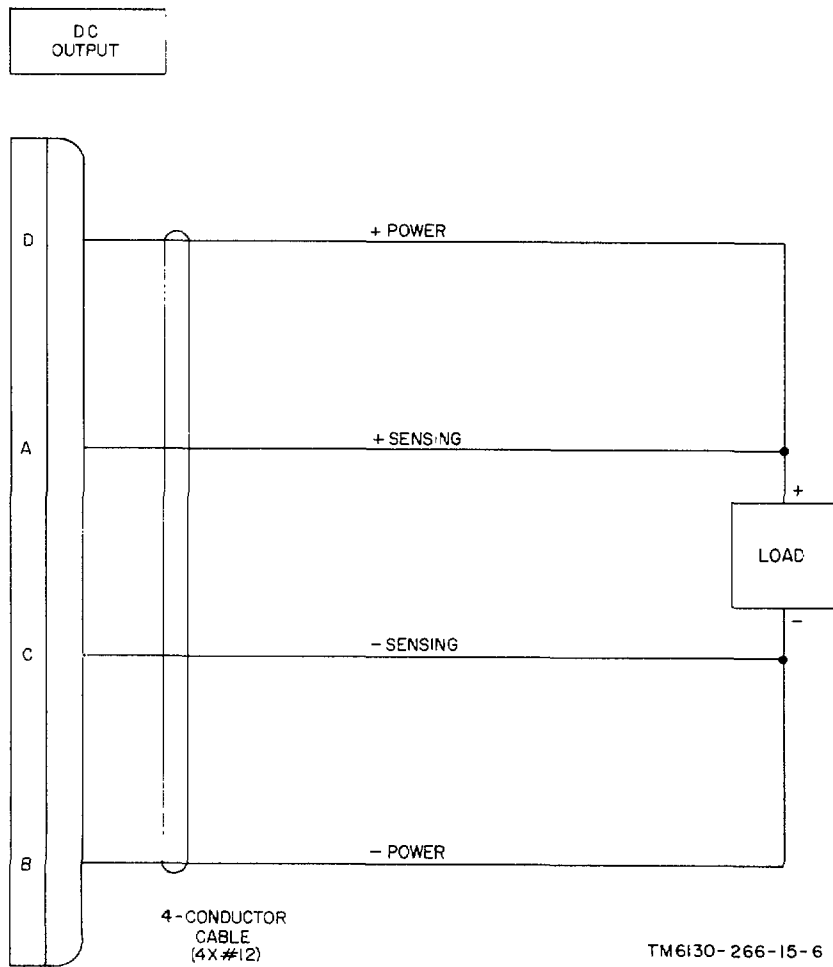

Figure 2-4. Power Supply PP-6224/U, remote cabling.
(2) *Remote.* Use a 4-conductor cable (not supplied) to connect the remote load terminals to DC OUTPUT receptacle J6 on the front panel. Connect the load leads (power) to pins D (+) and B (-). Connect the sensing leads to pins C (-) and A (+) (fig. 2-4).